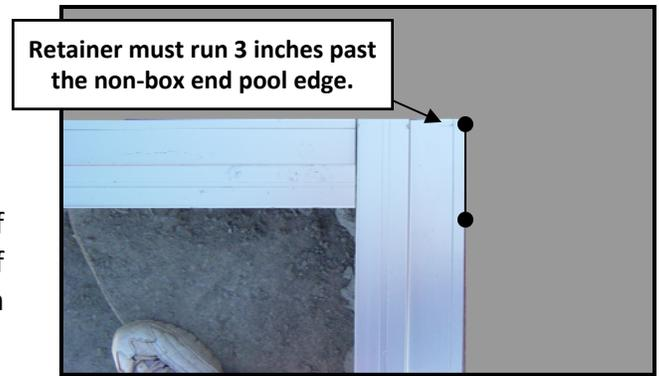

Fig. 3
Step 4: The encapsulation on the right and left sides of the pool should run 3 inches beyond the inner edge of the non-housing end of the pool. Cut any extra length using the Sawsall. **(Fig. 3)**